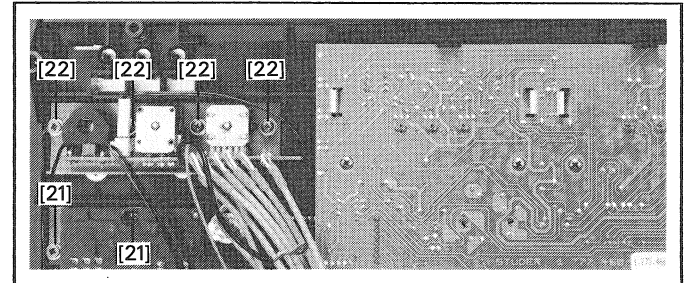

Fig. 9
- Unfasten the 2 screws [21] (Fig. 9).